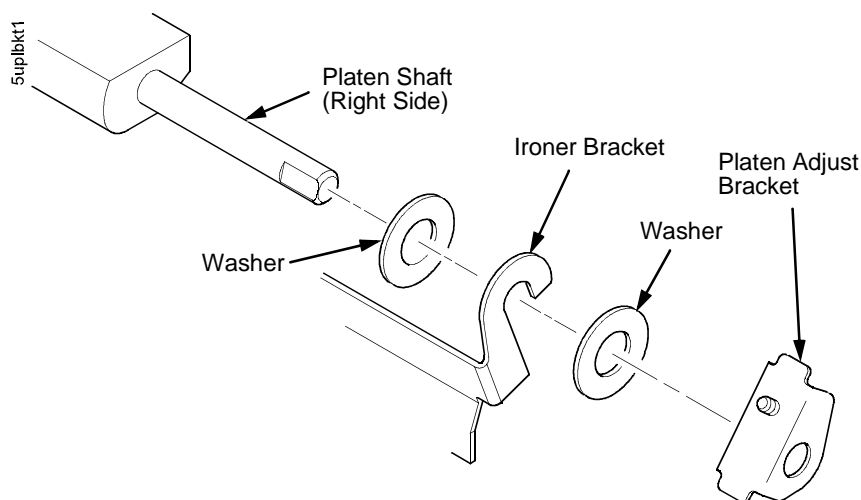

Figure 28. Installing the Platen Adjust Bracket
2. Install two washers on the longer (right) platen shaft. (See Figure 28 below.)
6. Install one platen adjust bracket onto the longer platen shaft, with the screw at the top of the bracket. (See Figure 28.)
11. Install the black metal washer onto the left side of the platen shaft. (See page 242, item 26.)
12. Apply bearing lubricant to the nylon bearings in the two spring links, slide the spring links onto the platen shafts, and connect the springs to the spring hooks in the side plates. (See page 242, items 16, 17, and 18.)
14. Install the paper ironer bracket. (See Figure 28.)
On the right side of the platen, a washer goes on both sides of the paper ironer bracket hook and the hook goes to the left of the right platen adjustment bracket. (See Figure 28.)